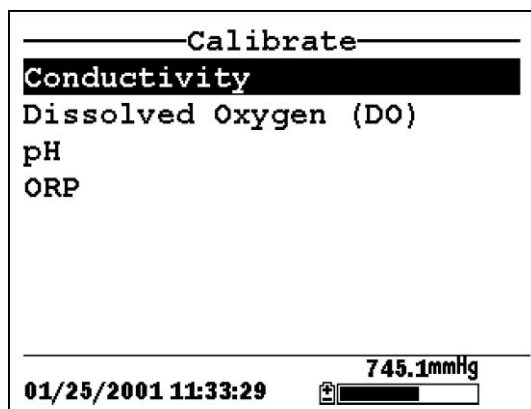

Figure 6.2 Calibrate Screen
2. Use the arrow keys to highlight the **Conductivity** selection. See Figure 6.2 Calibrate Screen.
15. Press **Escape** to return to the calibrate menu. See Figure 6.2 Calibrate Screen .
2. Use the arrow keys to highlight the **Dissolved Oxygen** selection. See Figure 6.2 Calibrate Screen.
11. Press **Escape** to return to the calibrate menu. See Figure 6.2 Calibrate Screen.
2. Use the arrow keys to highlight the **pH** selection. See Figure 6.2 Calibrate Screen.